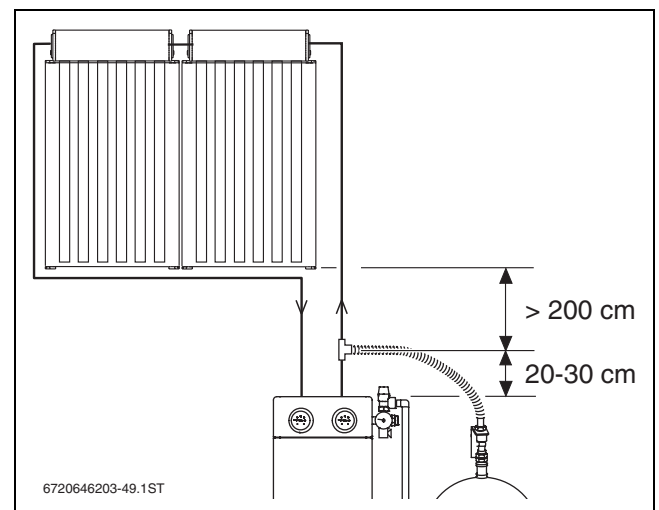

Fig. 3
- Install the expansion vessel (EV) with a tee 20-30 cm above the solar pump station in the return pipework to the panel (→ Fig. 3).
- The distance between the solar pump station (Expansion vessel connection) and the bottom edge of the collector array must be at least 2 m (→ Fig. 3).